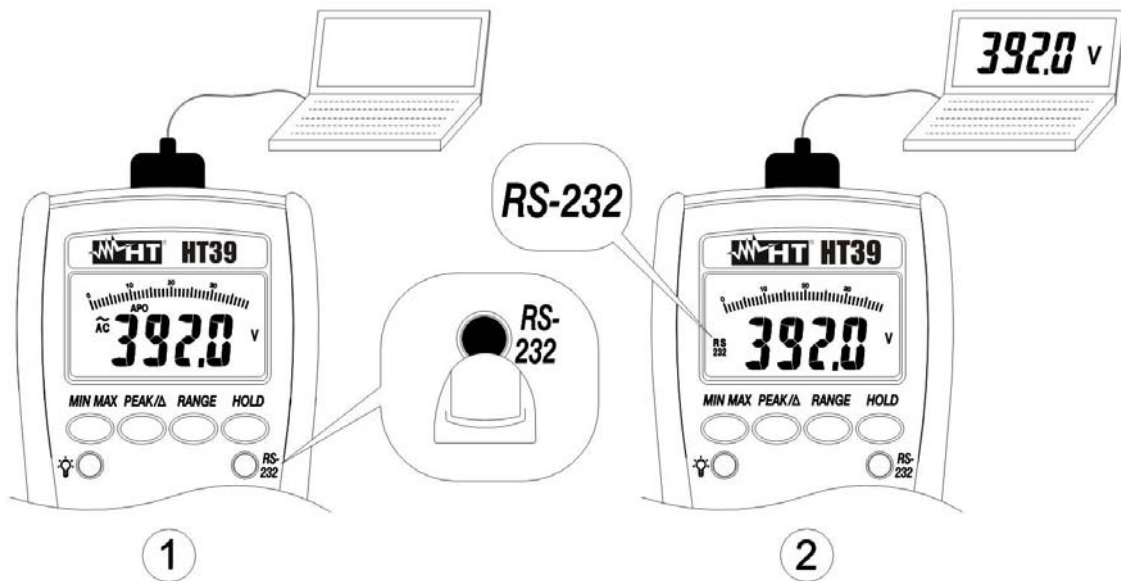

Fig. 2: Connection of HT39 to a PC
1. Insert the connector of the serial cable in the serial input on the upper side of the meter (see Fig. 2).